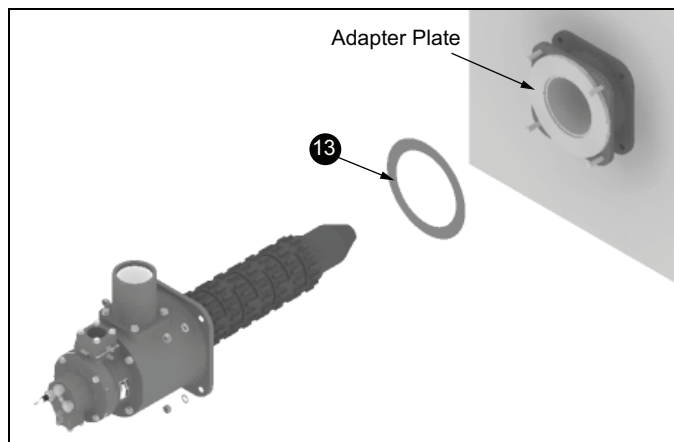

Figure 3.14
7. Adhere gasket (item 13) to the Adapter Plate using a spray adhesive. See Figure 3.14.